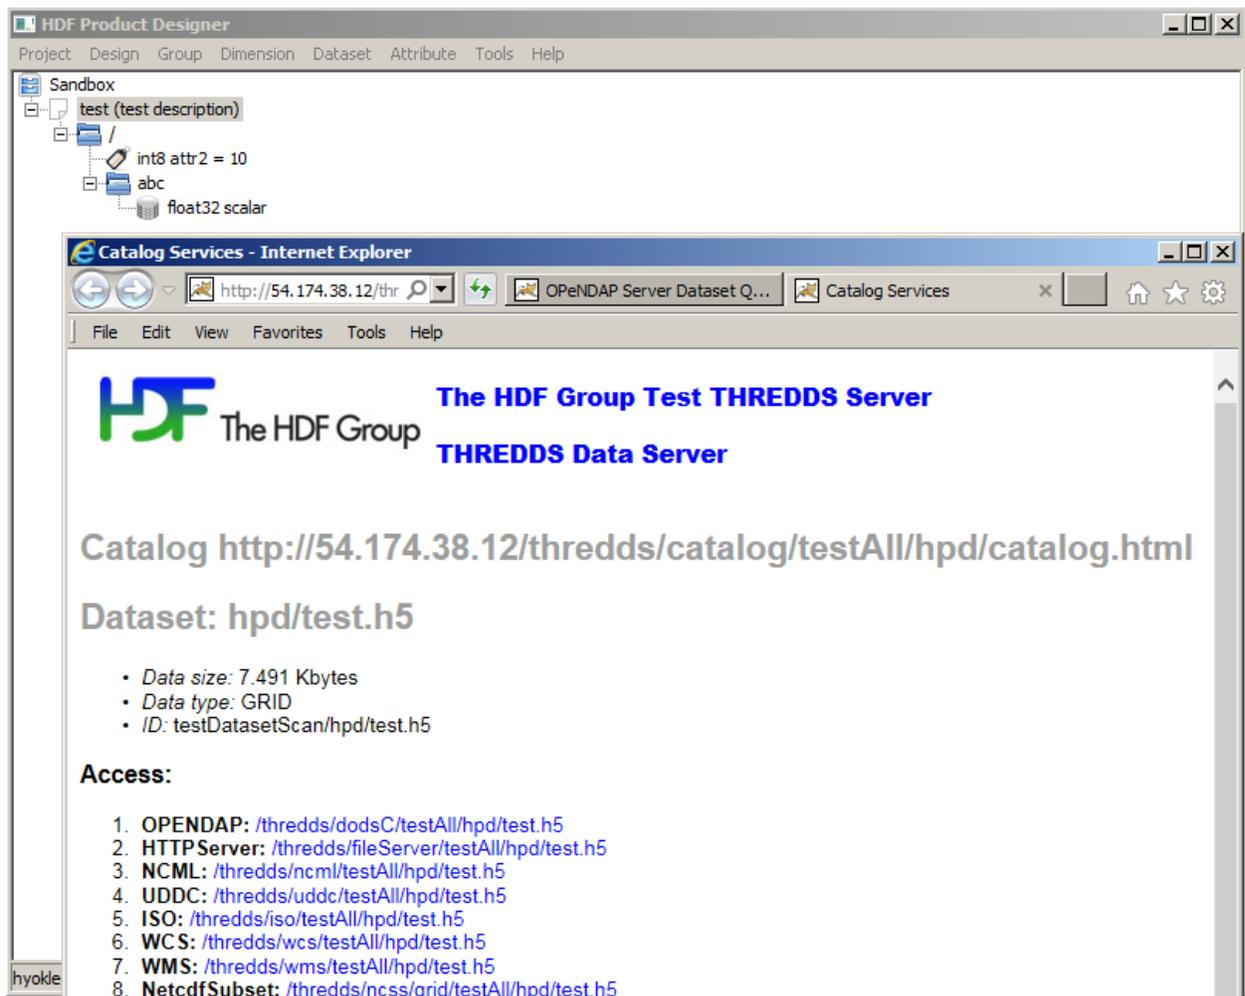

Fig. 5.30: THREDDS dataset access from HPD Online
- If no errors, a THREDDS dataset access page will be displayed in a web browser window (Fig. 5.30).